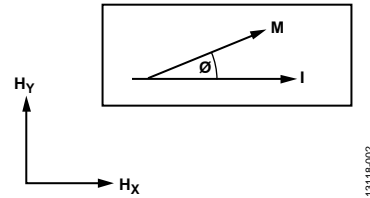

Figure 2. Anisotropic Magnetoresistive Example
Figure 2 shows an example of the AMR effect. A current (I) flowing through a conductor is subject to an external magnetic field (H_Y). The resistance of the conductor changes as a function of the angle (θ) between the magnetization vector (M) and the current flow vector (I). The magnetization vector is the net sum of the internal magnetic field (H_X) and the applied external magnetic field (H_Y).